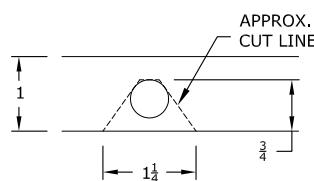

FIGURE A3
**6. Mark the 4" hole location.** Using a tape measure hooked over the rear edge of the bed (at tailgate end), measure the location for the hole as shown in figure A3. Next, locate the center of the bed by measuring the distance between the wheel wells and dividing by two. The center of the hole will be at the intersection of the center of the bed and the first distance measured.
**8. Modify bed flange.** Cut a notch in the bed flange just above the frame in the passenger side rear wheel. Locate the 7/16" hole in this flange above the axle and enlarge the hole by removing the metal below the hole so that a notch is created, See figure A3 & A4. This will allow the rear cross member to be installed.